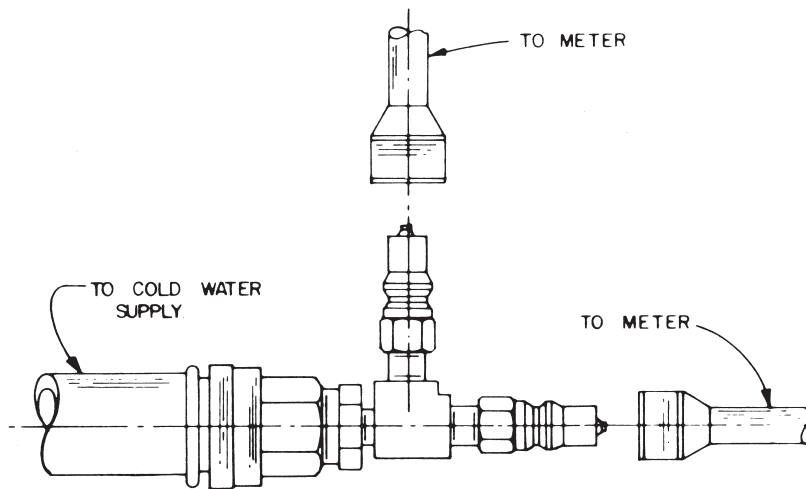

Figure 3. Purging adapter for purging meter in steam application.
- c) Close green throat vent valve item 1.
- a) Close venturi valves items 7 and 8.
- b) Open vent valves item 1.
- c) Disconnect quick connect couplers items 3 and 4.
- d) If meter is to be stored, open both vent valves item 1 to remove pressure from meter and hoses. Drain fluid from meter and hose.
***CAUTION:** Do not purge air from venturi system, as stated in steps 3 and 4, using water above +212°F. Water flashing to steam may cause severe harm to operator and damage to the equipment. To purge air from meter use special adapter shown on Figure 3. Run cold or domestic water through meter until air is removed from meter and hose. After closing meter valves, disconnect hose coupling from adapter and reconnect to venturi.